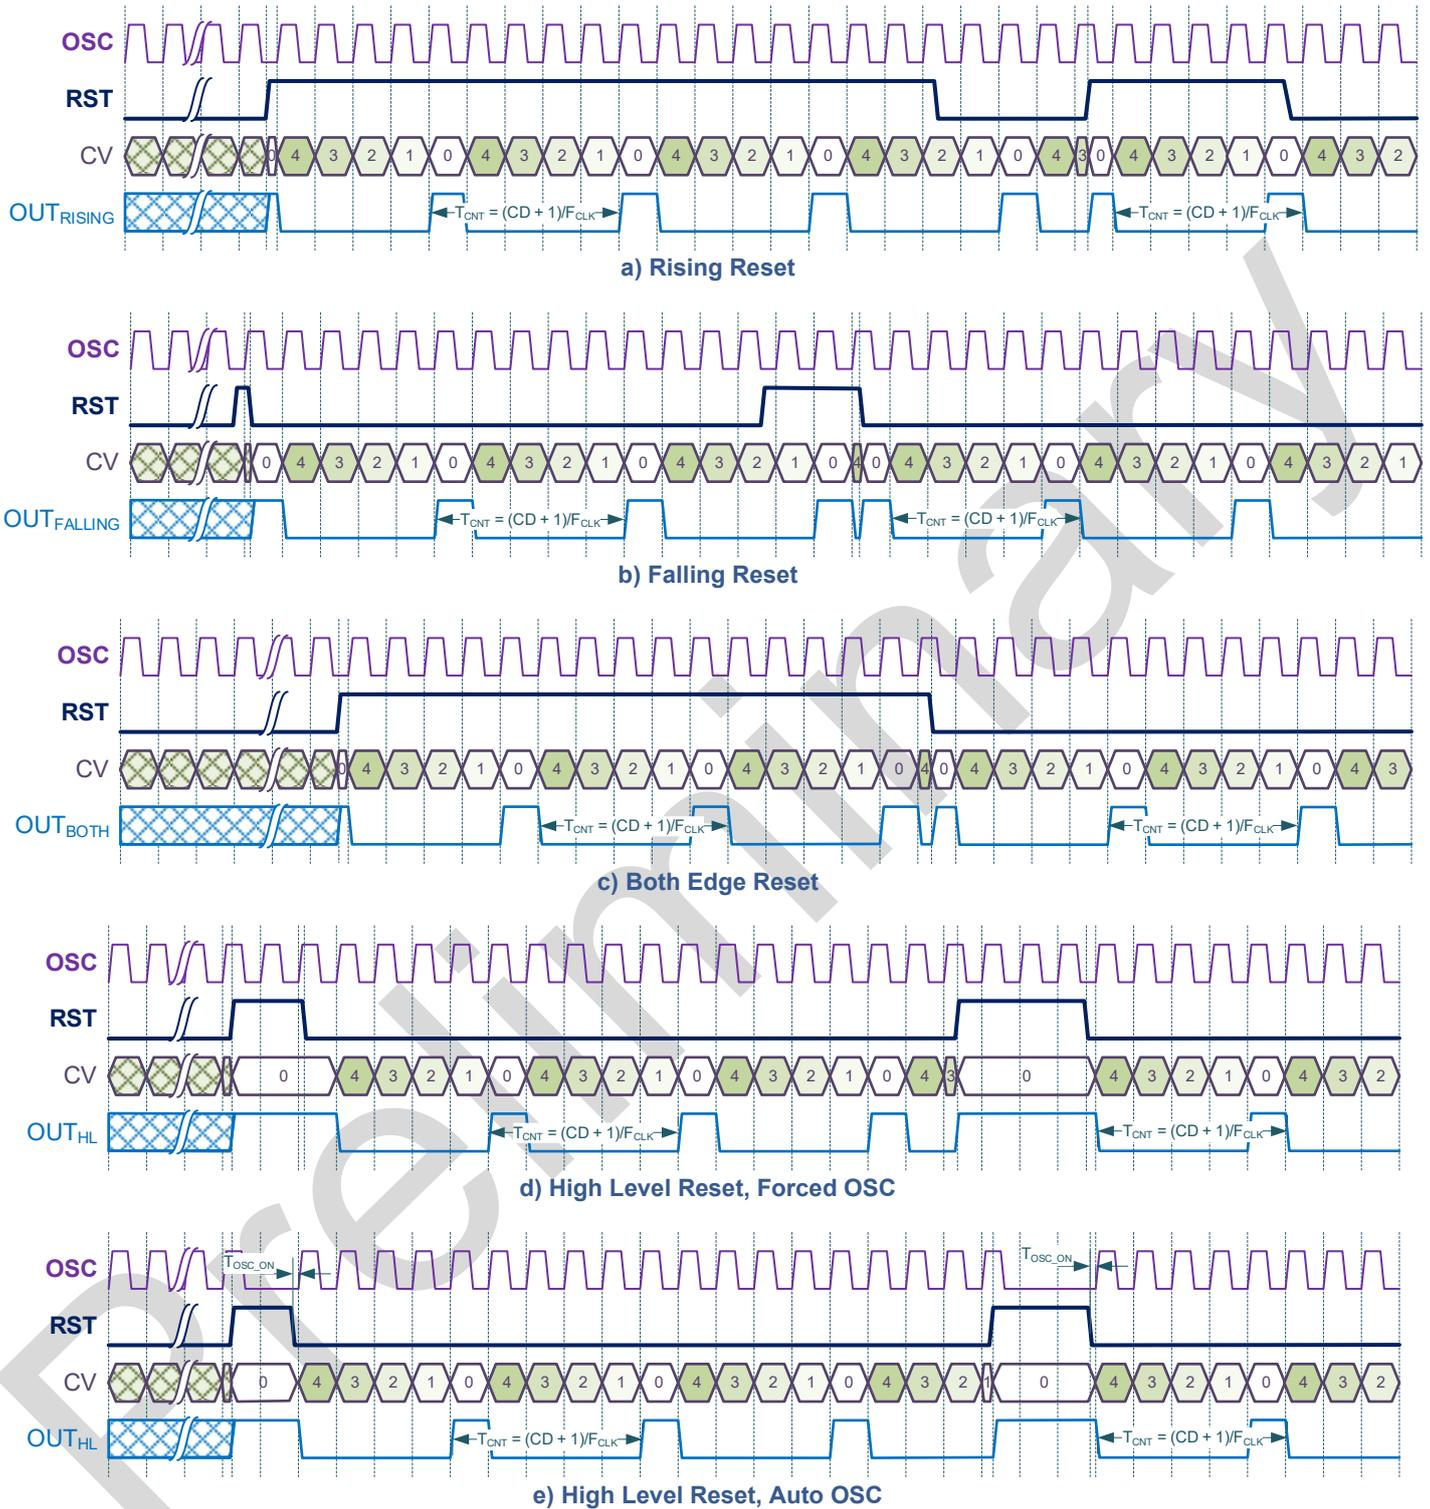

Figure 8.6. Counter Mode (Control Data: 4)
In the Counter mode the TMR divides input clock signal by the value determined by the Control Data, input clock signal and selected prescaler value. The output of the TMR goes HIGH every time when the Counted Value (current value of the counter) is equal 0. The RST of the TMR reset Counted value to 0 by one of the following events: rising edge, falling edge, both edges, high level. The timing diagrams of this mode is shown in the Figure 8.6.
- Counter (Figure 8.6)